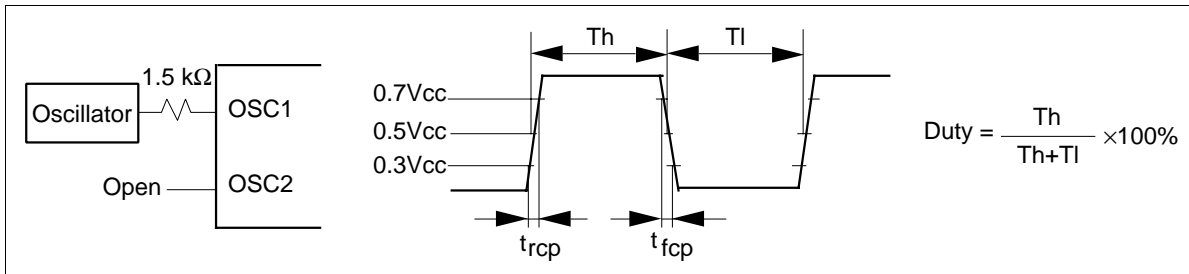

Figure 71 External Clock Supply
- 10. Applies to the external clock input (figure 71).